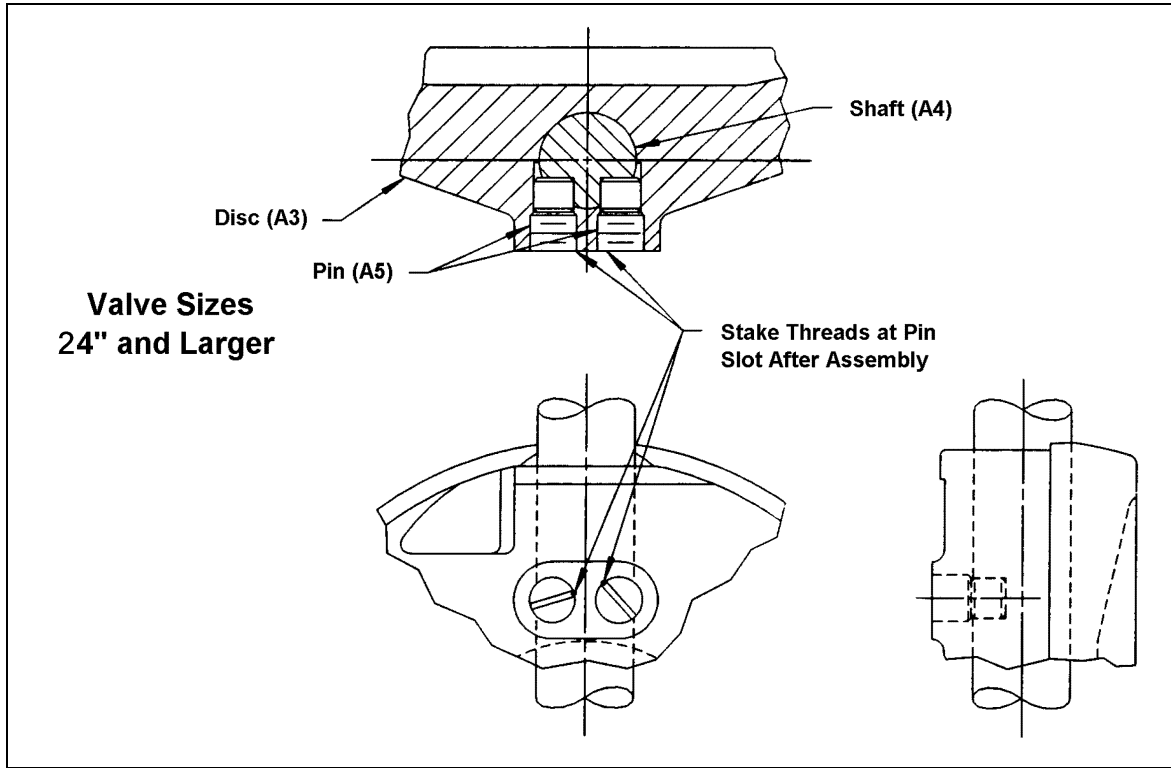

Figure 4 – Disc Pin Assembly
11. Remove the two disc pins (A5) — see Figure 4 on Page 13
- c. Use two new pins and turn the pins into the threaded holes in the disc (A3) and against the slots in the shaft (A4) as shown in Figure 4 on page 13.
- e. As shown in Figure 4 on Page 13, stake the screw threads on each disc pin once with a pointed punch to secure the pins in position.
5. Replace pin (A46) in valve shaft (A) (does not apply to valves with stepped shafts).